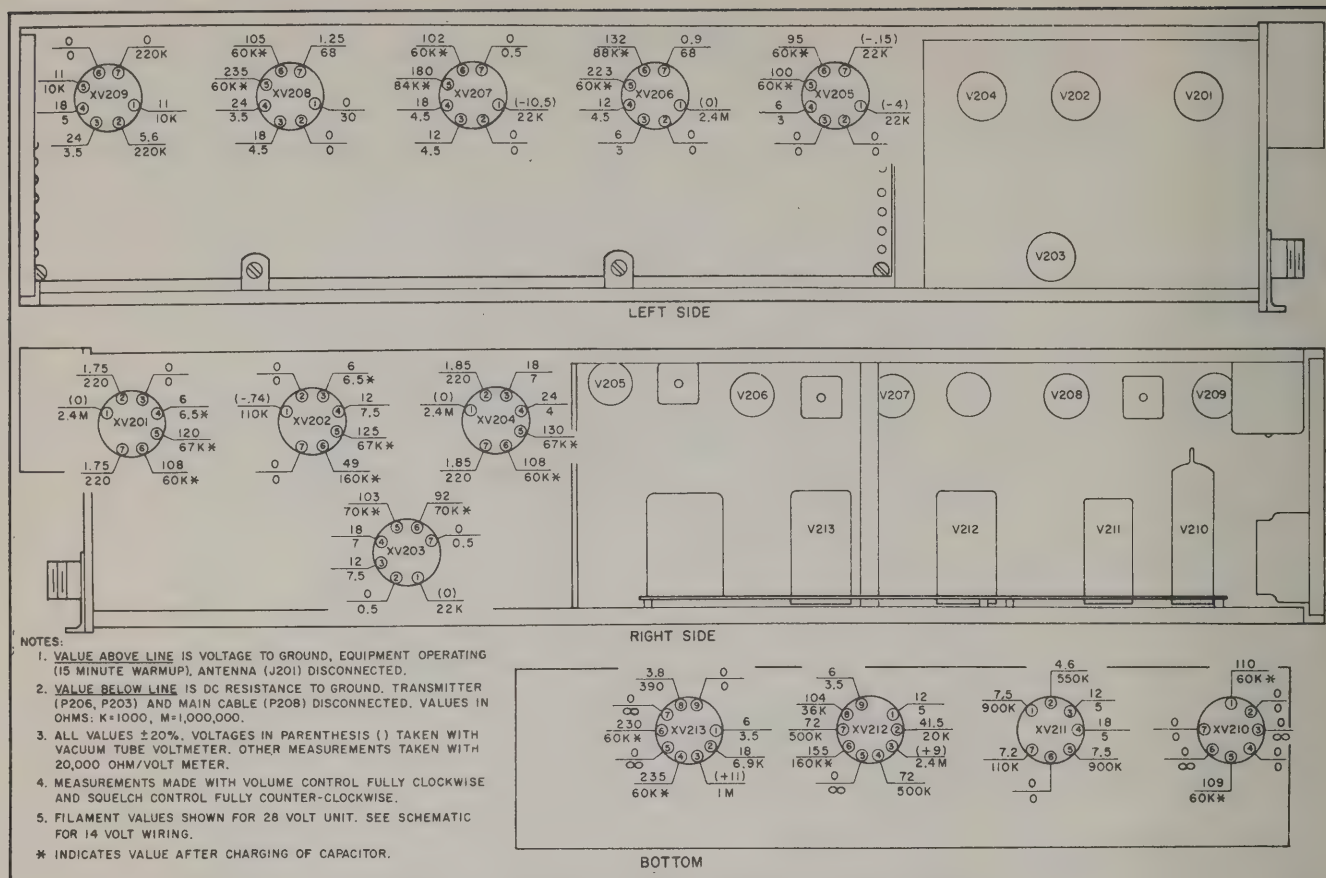

Figure 3-3. Receiver Unit Voltages and Resistances
c. If tubes OK, make V & R checks at V209, V211, V212 and V213 (fig. 3-3).	Repair as required.